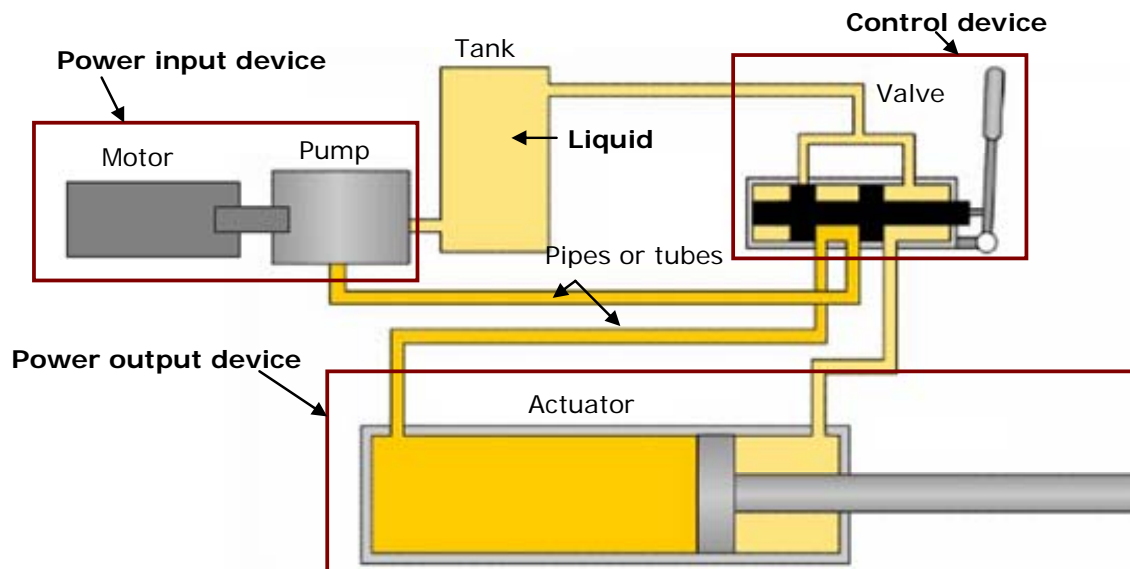

Fig.1.5: The basic components of a Hydraulic system
- 1. Power input device:** The pump and motor together are called the power input device; the pump provides power to the hydraulic system by pumping oil from the reservoir/tank. The pump's shaft is rotated by an external force which is most often an electric motor as illustrated in Fig 1.5. **Tip:** "Watch the hydraulic system video"